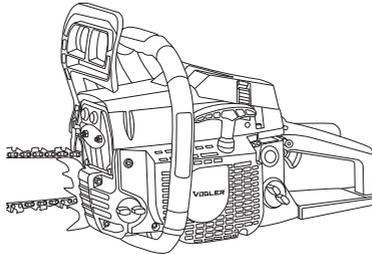

Fig. 5
- Turn the unit on its side so that the fuel tank is facing up (Fig. 5).